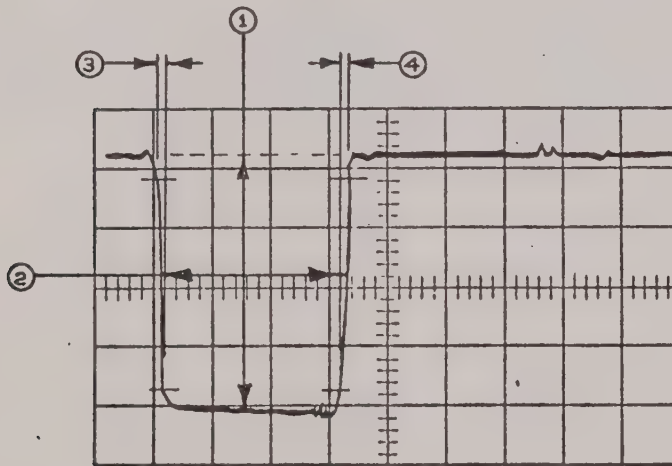

Figure 5-13: Transmit Word Sync
- k. Operate the Storage Oscilloscope's Trigger, storage, and position controls to obtain the waveform of Figure 5-13, after the Erase & Reset button has been momentarily pushed. Measurement (1) should be between 4.5 and 5.5 cm (4.5 and 5.5 volts). Measurement (2) should be between 3.0 and 3.5 cm (300 and 350 nsec). Measurement (3) and 4, taken at the 10% and 90% points should be less than 0.5 cm (50 nsec).
- l. Connect the alligator clip of the 100 ohms, 1% resistor between probe tip and ground connection. Measurement 1 from Figure 5-13, should be not less than 2.25 cm and 2.75 cm (2.25 and 2.75 volts).